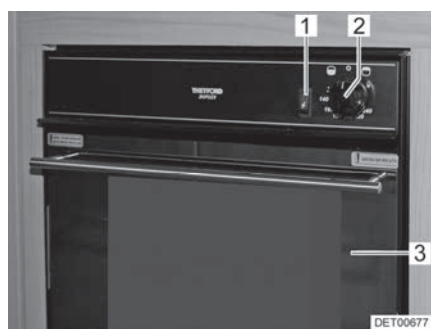
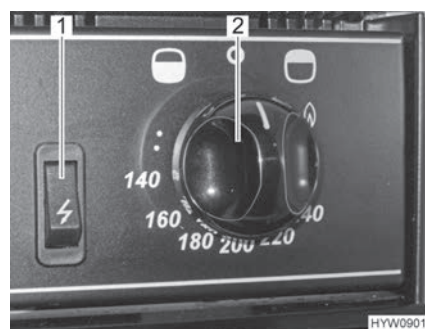

Fig. 131 Gas oven with grill
Fig. 132 Operating controls (gas oven with grill)
- Fully open the oven flap (Fig. 131,3).
- Press the control knob (Fig. 131,2 and Fig. 132,2) and set it to the maximum setting anticlockwise (towards the oven symbol "").
- Press the control knob (Fig. 131,2 and Fig. 132,2) and hold it down for 5 to 10 seconds. Gas will stream into the burner.
- Keep the ignition switch (Fig. 131,1 and Fig. 132,1) pressed until the flame burns.
- Press the control knob (Fig. 131,2 and Fig. 132,2) and turn it clockwise (towards the grill symbol "") in the direction of the flame symbol.
- Turn the control knob (Fig. 131,2 and Fig. 132,2) to "O". The flame fades.